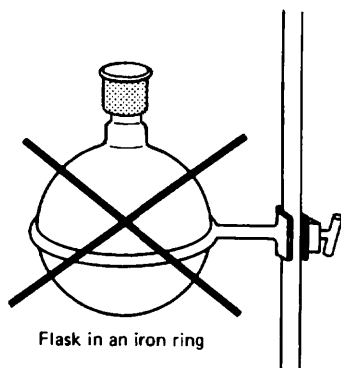

Fig. 82 Flask in the iron ring.
4. *Never* place the flask in the ring without a screen (Fig. 82). The iron ring heats up faster than the flask, and the flask cracks in the nicest line around it you've ever seen. The bottom falls off, and the material is all over your shoes.